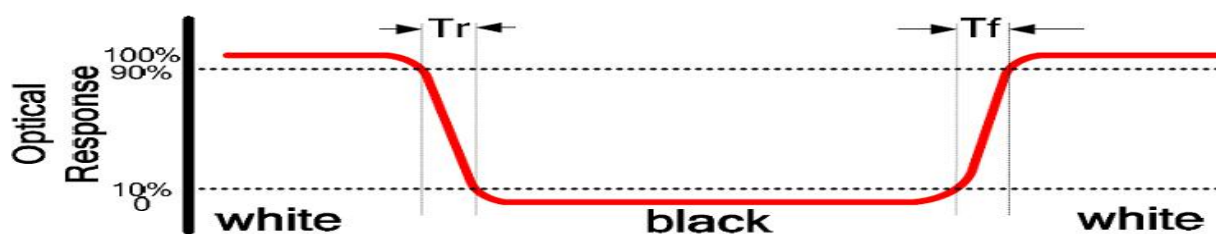

FIG2. Measuring method for Contrast ratio,surface luminance,Luminance
Note2.contrast Ratio(CR) is defined mathematically by the following formula ,For more information see FIG2.
Note5. Surface luminance is the LCD surface luminance with all white pixels,For more information see FIG2.
Note6.CIE(X,Y)chromaticity is the Center point value.For more information see FIG2.